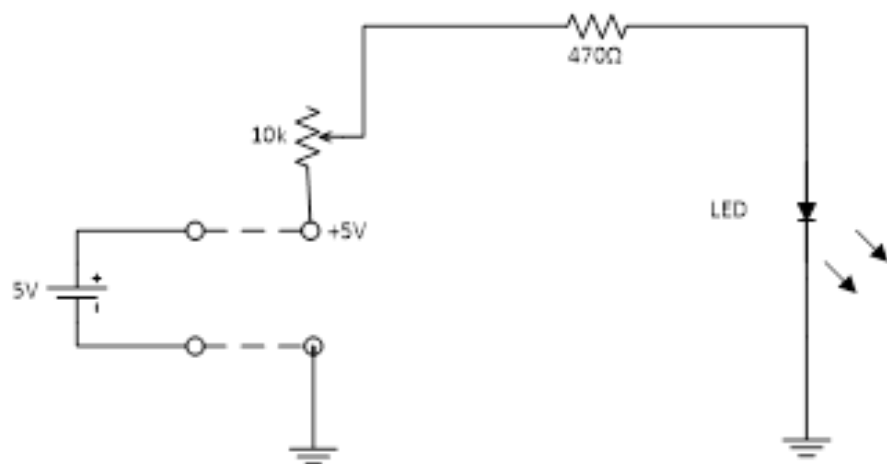

Figure 3
4. Excluding the power source, connect the circuit as shown in Figure 3. The LED has polarity and turns on only if connected the right way. The long lead usually connects to a positive source and is called the anode, the other is called the cathode.